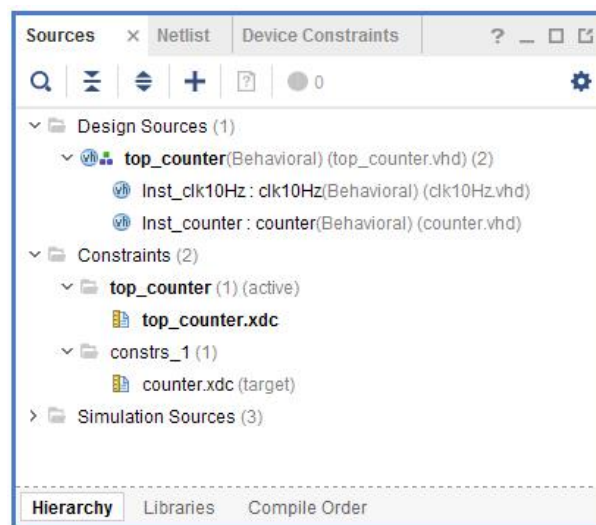

Figure 46
14. The new, and active, constraint set **top_counter** containing the new constraint file **top_counter.xdc** is added to the hierarchy of our design in the project **Sources** window (Figure 46)